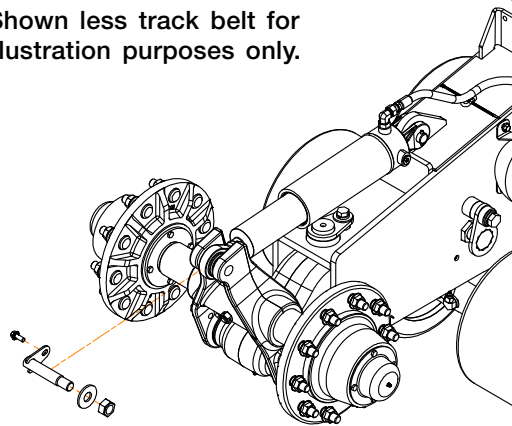

Fig. 4-25
21. Secure the hydraulic cylinder rod end with the hardware removed in step #10 (Fig. 4-25).